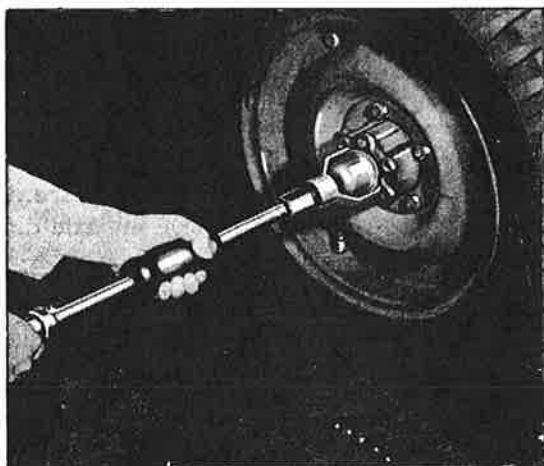

FIG. 216—HUB CAP PULLER
- b. Remove the hub cap with a puller as shown in Fig. 216.